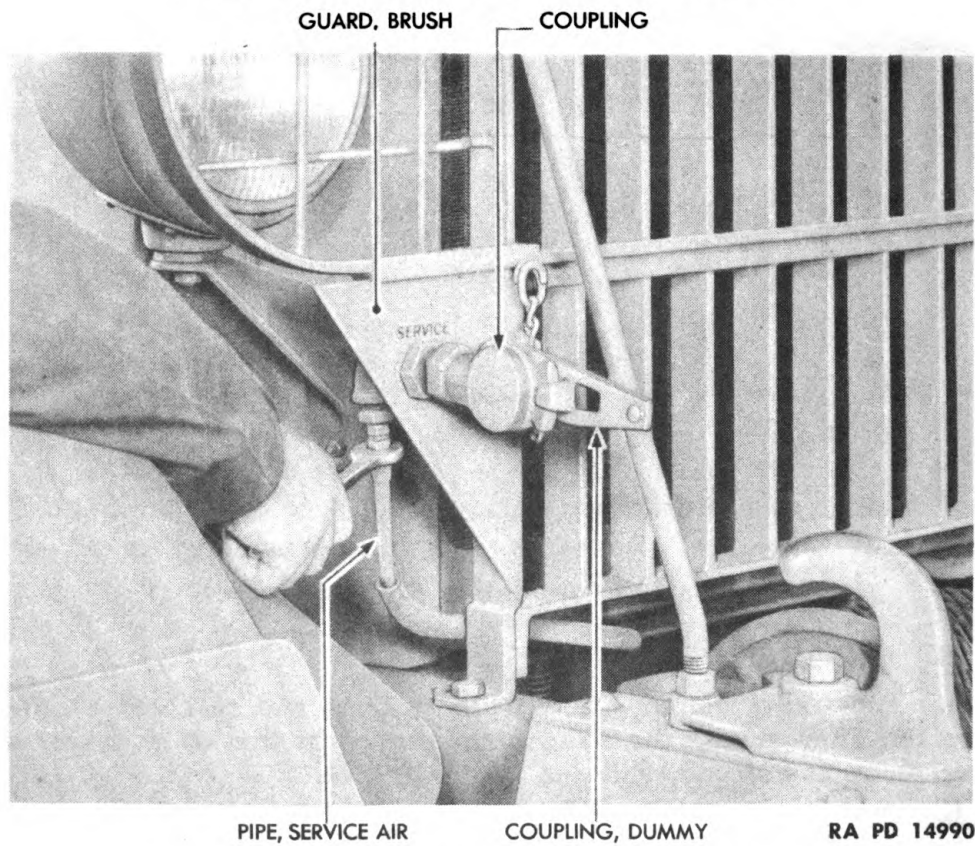

Figure 61—Disconnecting Service Air Pipe
(1) DISCONNECT AIR PIPES (fig. 61).
(a) Disconnect service air pipe at pipe nipple (fig. 61).
(c) Unhook two dummy couplings from the two couplings (fig. 61).